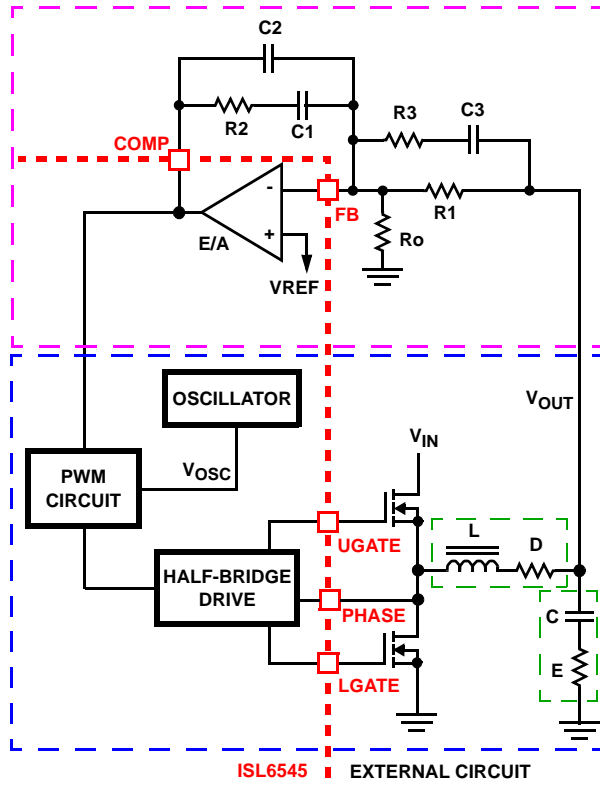

FIGURE 9. VOLTAGE-MODE BUCK CONVERTER COMPENSATION DESIGN
This section highlights the design consideration for a voltage-mode controller requiring external compensation. To address a broad range of applications, a type-3 feedback network is recommended, as shown in the top part of Figure 9.
Figure 9 also highlights the voltage-mode control loop for a synchronous-rectified buck converter, applicable to the ISL6545 circuit. The output voltage (V_{OUT}) is regulated to the reference voltage, V_{REF} . The error amplifier output (COMP pin voltage) is compared with the oscillator (OSC) modified sawtooth wave to provide a pulse-width modulated wave with an amplitude of V_{IN} at the PHASE node. The PWM wave is smoothed by the output filter (L and C). The output filter capacitor bank's equivalent series resistance is represented by the series resistor E.
The compensation network consists of the error amplifier (internal to the ISL6545) and the external R1-R3, C1-C3 components. The goal of the compensation network is to provide a closed loop transfer function with high 0dB crossing frequency (F_0 ; typically 0.1 to 0.3 of F_{SW}) and adequate phase margin (better than 45°). Phase margin is the difference between the closed loop phase at F_{0dB} and 180°. The equations that follow relate the compensation network's poles, zeros and gain to the components (R1, R2, R3, C1, C2, and C3) in Figure 9. Use the following guidelines for locating the poles and zeros of the compensation network:
4. Select a value for R1 (1kΩ to 5kΩ, typically). Calculate value for R2 for desired converter bandwidth (F_0). If setting the output voltage via an offset resistor connected to the FB pin, R_o in Figure 9, the design procedure can be followed as presented.